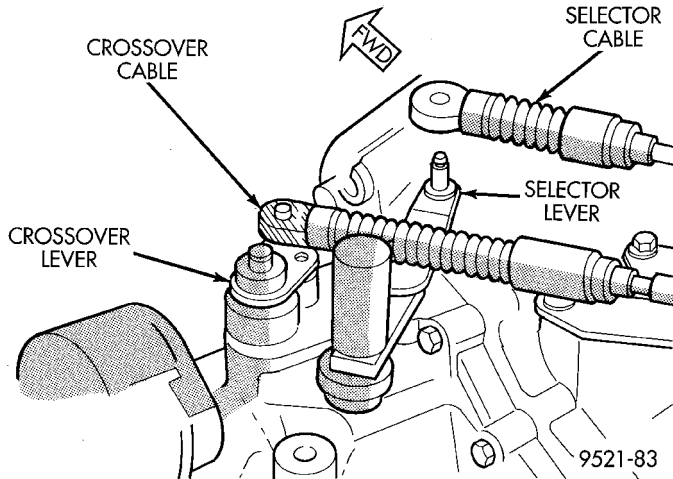

Fig. 20 Crossover Lever
- (1) Remove crossover cable. Refer to Gearshift Cable removal.
- (2) Using a pin punch, remove the crossover roll pin from lever.
- (3) Pull up and remove the crossover lever from the transaxle crossover shaft (Fig. 20).